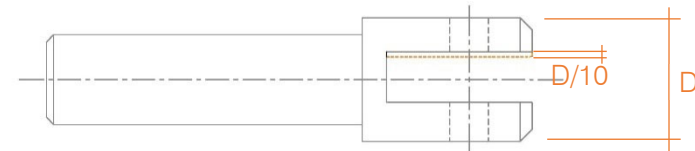

Fig. 63 - Connector Reduction
- 14.5.2 Reduction of the cross-sectional area of the connector (male or female) surface by more than 10%. *Fig. 63 - Connector Reduction*